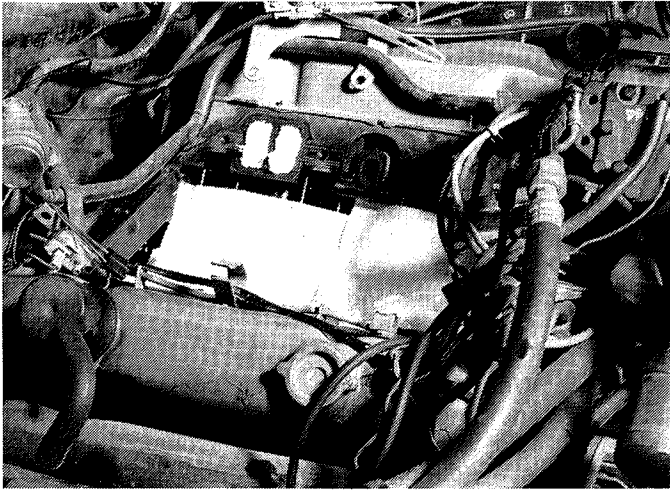

Fig. 1
- Clean old gaskets from cylinder head and block surfaces. (Before cleaning, stuff intake ports in head with paper towels or rags and lay clean, lint-free, rags in valley to prevent scrapings from entering cylinder head ports and engine). See Figure 1.